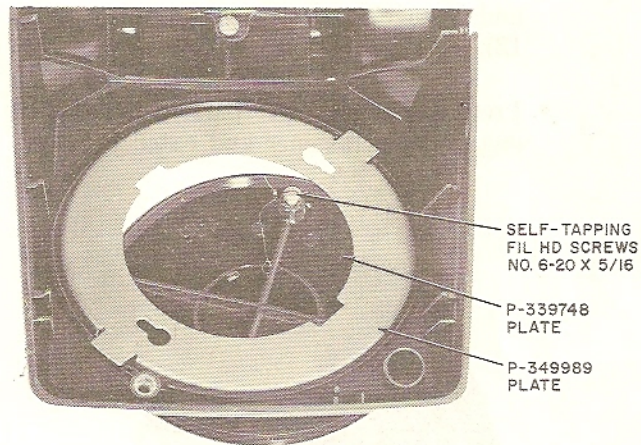

Fig. 14 — 500-Type Telephone Set With 95A Apparatus Blank
- (1) 95A — Used only on sets with three-point dial mountings (Fig. 14).